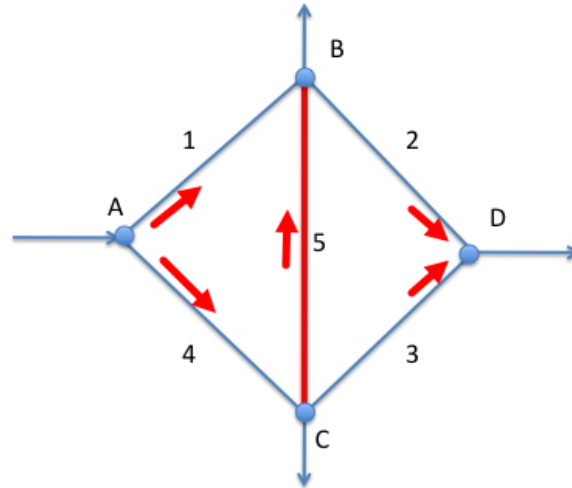

Figure 5: Pipe network
8. Figure 5 is a pipe network with the following properties:
Table 1: Network properties for Figure 5
Referring to Figure 5, and Table 1 the flow distribution is: